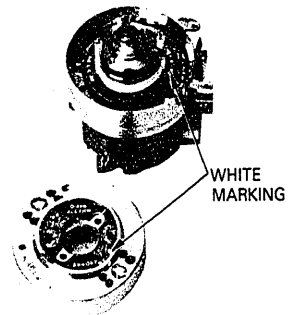

Fig. 24 Caution When Reinstalling the Upper Cylinder
- 4) Reinstall the upper cylinder (video head) so the white marking of the CH-1 head is adjacent to that of the CH-1 leads of the rotary transformer. (Fig. 24)